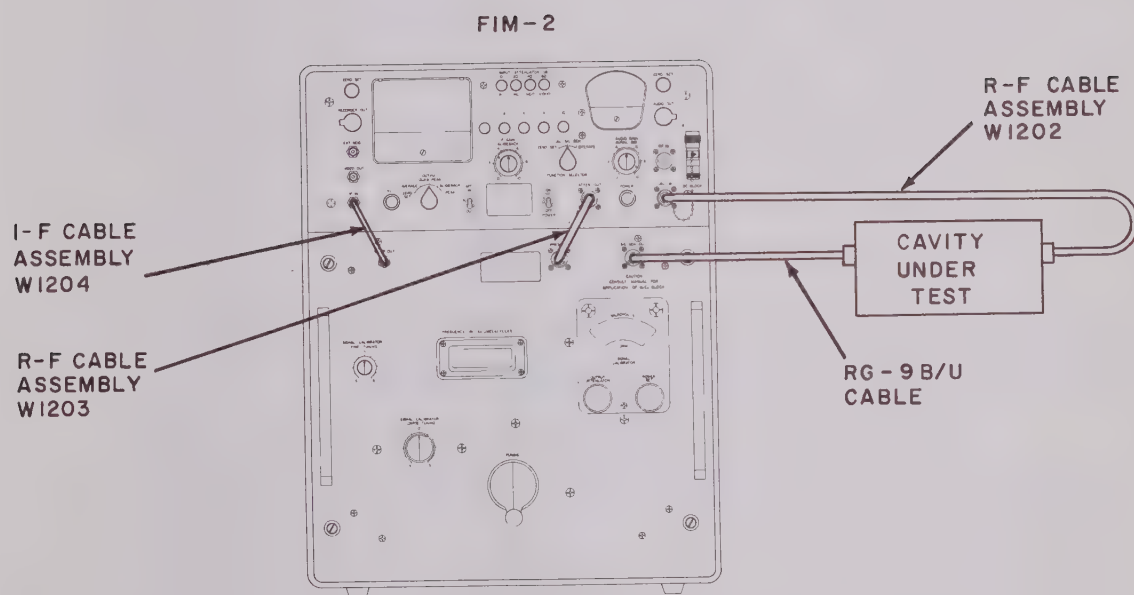

**Figure 2-16. Q and Bandwidth Measurements,
c. Interpose the cavity under test between the SIG GEN OUT jack and the CAL IN jack, as shown in figure 2-16.
i. Interpose the cavity under test between the SIG GEN OUT jack and the CAL IN jack, as shown in figure 2-16.